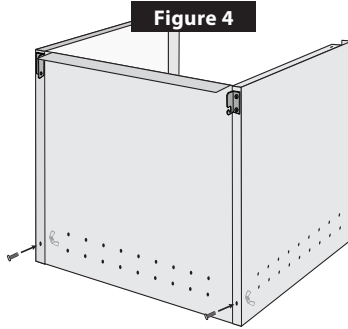

Figure 4
- SIDES:** Finish securing the two sides to the back panel with another bolt and wing nut each, near the bottom. **Figure 4.**